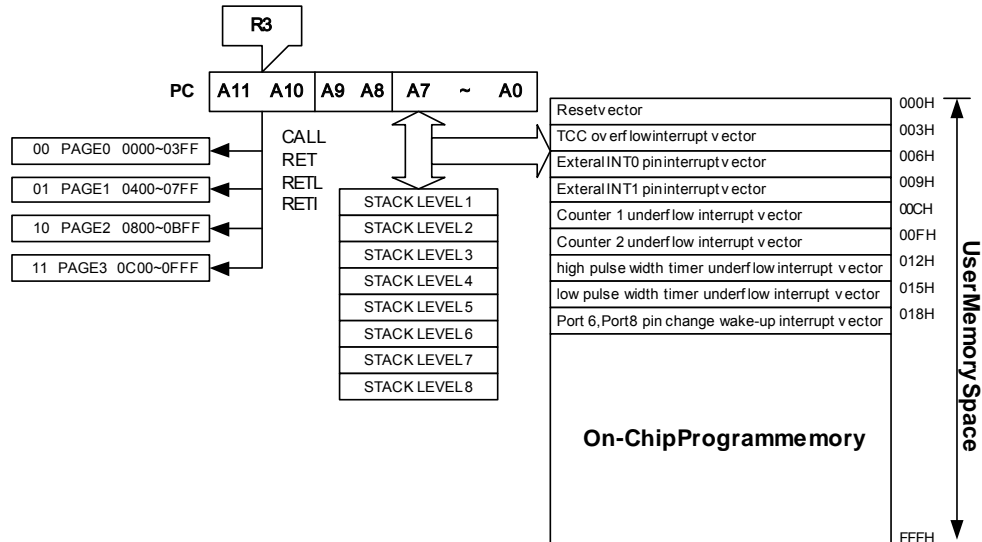

Fig 6-1 Program Counter Organization
- The structure of R2 is depicted in Fig. 6-1, *Program Counter Organization*.